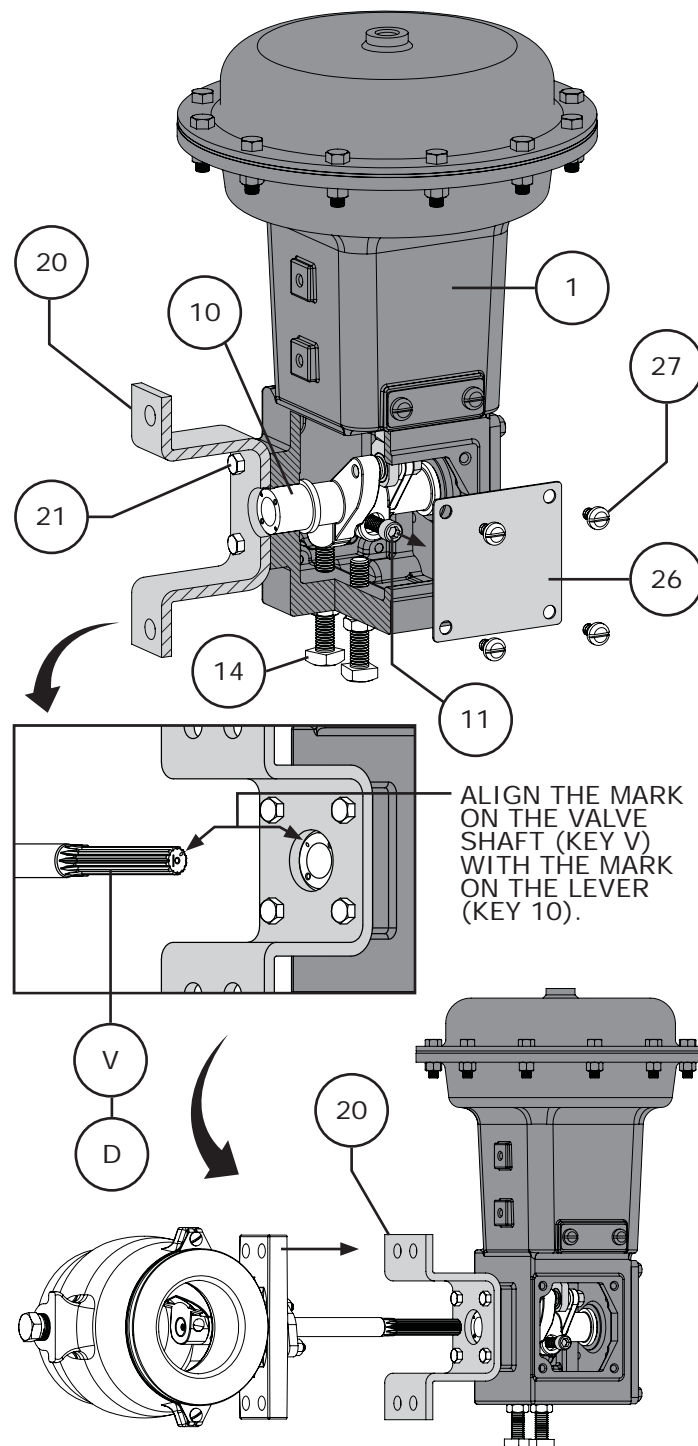
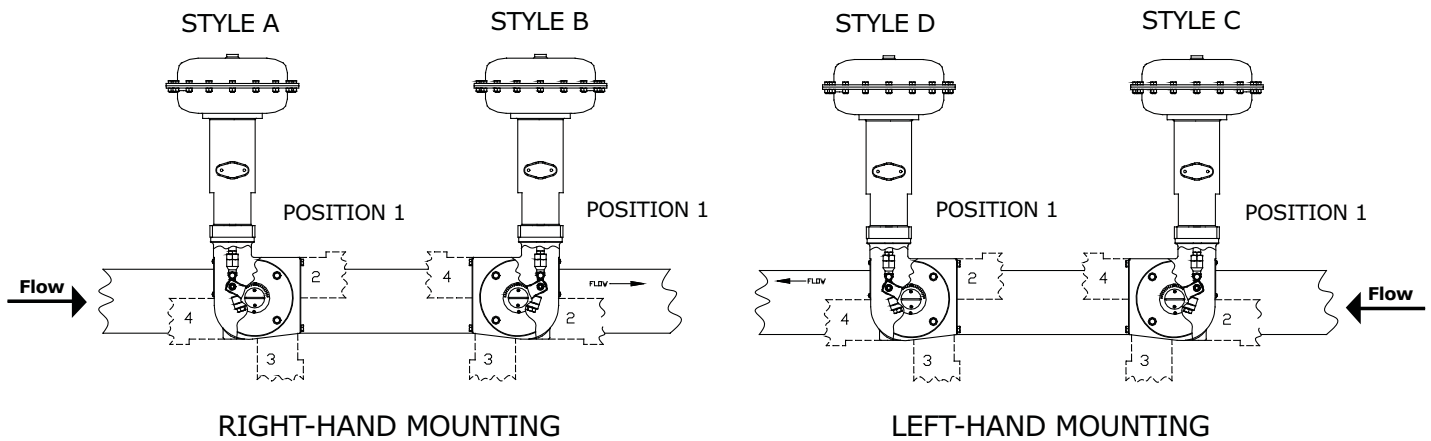

Figure 3 Actuator Mounting
Figure 9 Mounting Orientation and Valve Applications
Refer to Figure 3 & 4 of Sales Bulletin.
- 8 Slide the actuator onto the valve shaft as shown in Figure 3. Refer to Figures 9 for actuator mounting positions and orientations. Align the mark on the valve shaft (Key V) with the appropriate mark on the lever (Key 10).
Style A is right-hand mounted and **Style D** is left-hand mounted, in all other ways **Styles A** and **D** are identical. Refer to Figure 9.
Style B is right-hand mounted and **Style C** is left-hand mounted, in all other ways **Styles B** and **C** are identical. Refer to Figure 9.
- 5 Place the mounting yoke (Key 20) in the desired orientation (refer to Table 2 and Figure 9 for Mounting Positions) on the opposite side of the actuator. Secure the mounting yoke in place using the cap screws (Key 21), tighten the cap screws to the torque specification listed in Table 4.